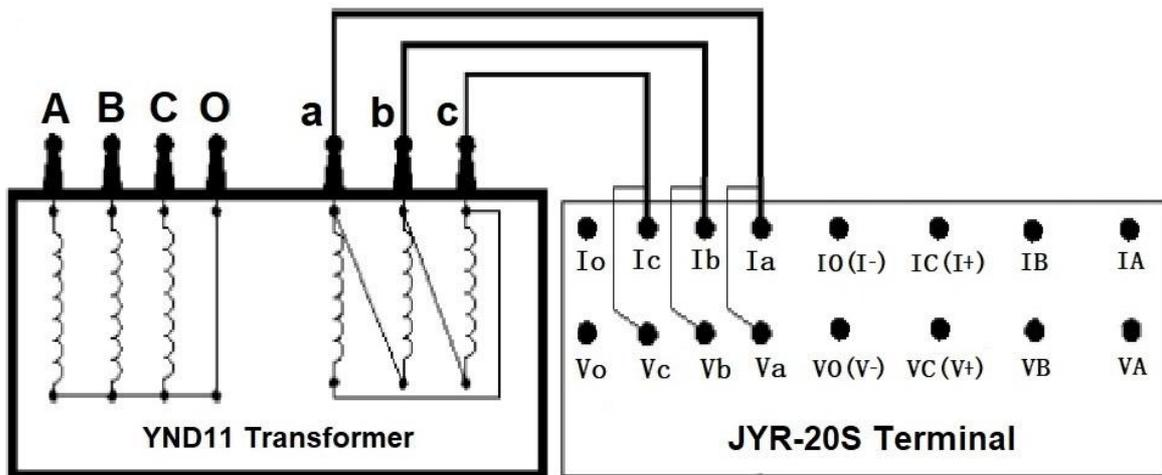

Figure 3
**D/Y winding phase to phase measurement:** (D/Y winding of each phase of the measurement) D winding wiring is shown in Figure 3